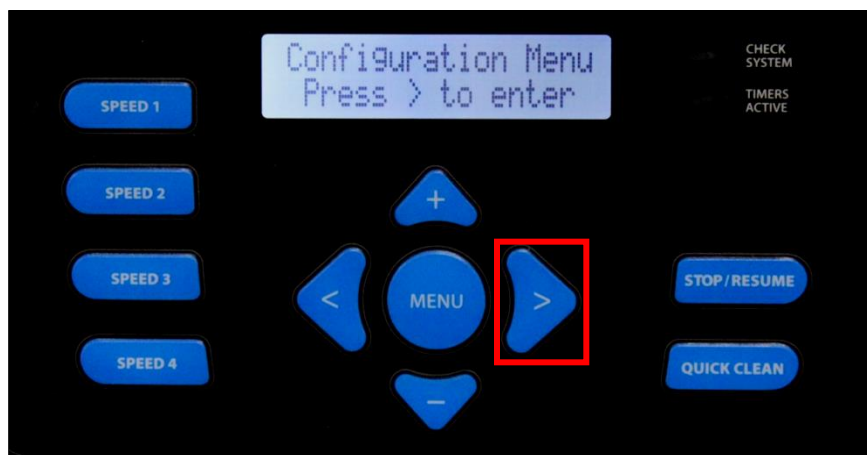

Figure 27
4. On the next screen you will be asked to press the  button to enter the Configuration Menu (fig 27).